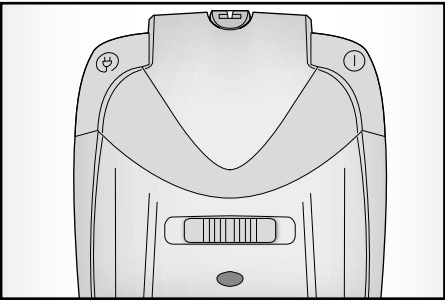

Fig. 4
First of all, before using this appliance, unwind the power cord fully and plug it in. To switch on, press the On/Off switch (F) on the vacuum cleaner (FIG. 4).
It's possible to regulate the power of aspiration as wished using the sliding lever (D) (FIG. 4). We recommend minimum power when cleaning delicate materials, medium for mattresses, upholstered furnishings and carpets, and maximum power on floors in tiles, wood or other hardwearing materials.